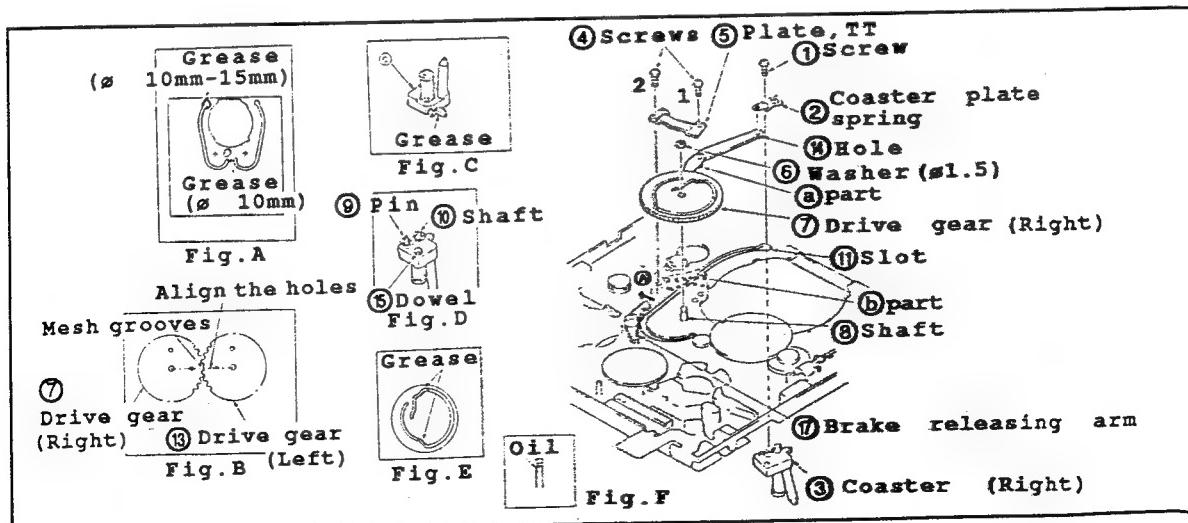

Fig.II-24
• Disassembling (Fig.II-24)
- (1) In the same procedures "3-3" and "3-12", dismount the capstan motor and the drum unit.
- (2) In the same procedures in "3-14", take off the loading lever.
- (3) Set STOP mode.
- (4) To take off the coaster plate spring ② and the coaster (Right) ③, remove the screw ①.
- (5) To detach the plate TT ⑤, remove the two screws ④.
- (6) To dismount the drive gear (Right) ⑧, remove the washer ⑥ ($\varnothing 1.5$).
• Reassembling (Fig.II-24)
*Caution: Do not turn the tilt adjusting screw ⑩ of coaster (Right). (Repair parts have been already adjusted.)
- (1) Apply the grease to the indicated positions of chassis as shown in Fig.A.
- (2) Apply the 1/2 drop of oil to the shaft ⑩. (Fig.F)
- (3) Apply the grease onto the pin ⑨, the shaft ⑩ and the dowel ⑮ of coaster (Right) ③.
- (4) Assemble the pin ⑨ and the shaft ⑩ aligning the slot ⑪ of chassis.
- (5) Put the brake releasing arm ⑯ to the arrowed direction ⑰.
- (6) Install the drive gear (Right) ⑦ to the shaft ⑩. Then, mesh it with the drive gear (Left) ⑬ while aligning each phases as shown in Fig.B.
- (7) Align ⑰ with ⑯, the hole ⑭ with the pin ⑨ of coaster (Right) ③, respectively.
- (8) Secure the washer ⑥ ($\varnothing 1.5$).
- (9) Assemble the coaster plate spring ② while aligning the shaft ⑩ (coaster ③) with the pin ⑨. Then, secure it with the screw ①. (Torque: 500g/cm approx).